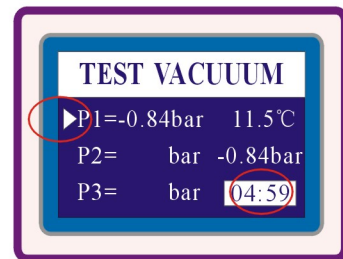

Fig.6.4-29
(3)when the pressure reach -0.85bar,the vacuum pump stop work.this pressure is maintained for 5 minutes and then measured P2.(Fig.6.4-29)